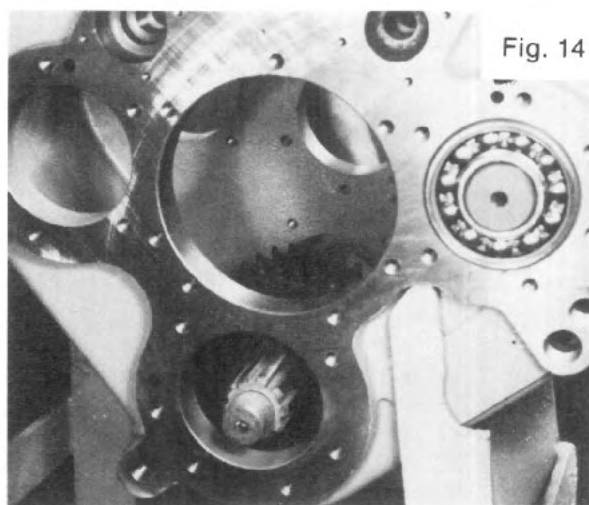
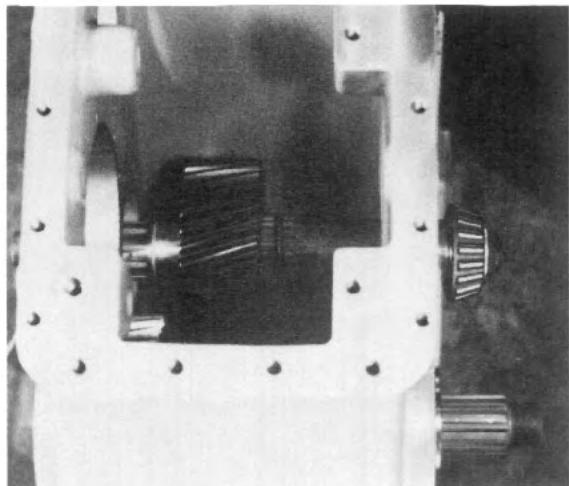

Fig. 14
Fig. 15
6. Insert the rear output shaft (Item 49 with Items 31, 46 and 39) through the proper hole in the front of the case and align the shaft splines with the gear splines (See Fig. 14). Use a brass or aluminum rod to protect the threaded shaft end and tap the shaft into the gear until the retaining ring (See Fig. 15) seats in the chamfer of the gear.